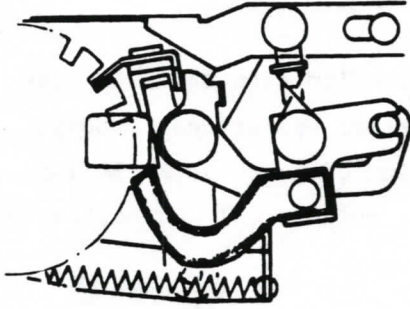

Fig. 144
1) Release lever fits Counter dividing device, and Red signal disappears as shown in Fig. 144.